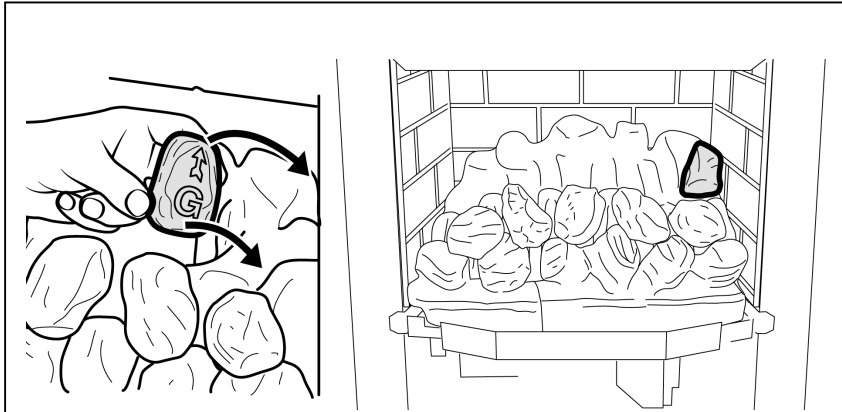

Figure 43. Third row "Coal G"
**16.** Hold coal 'G' upright with the arrow pointing to the top. Locate coal 'G' as shown in figure 43.